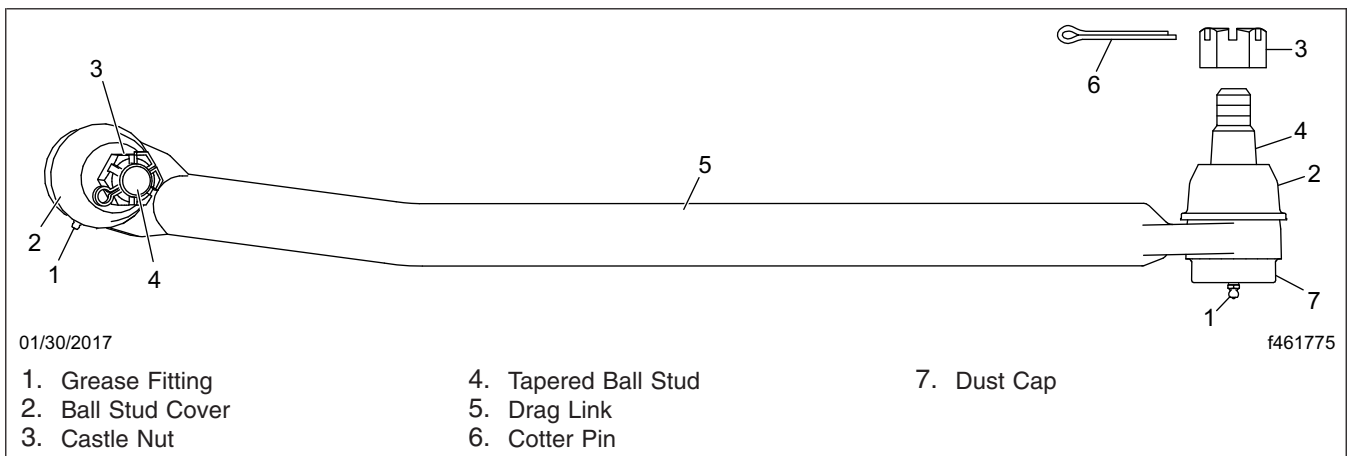

Fig. 2, Fixed-Length Drag Link Assembly
5.1 Remove the cotter pin and torque the castle nut to 229 lbf-ft (310 N·m). See Fig. 2.